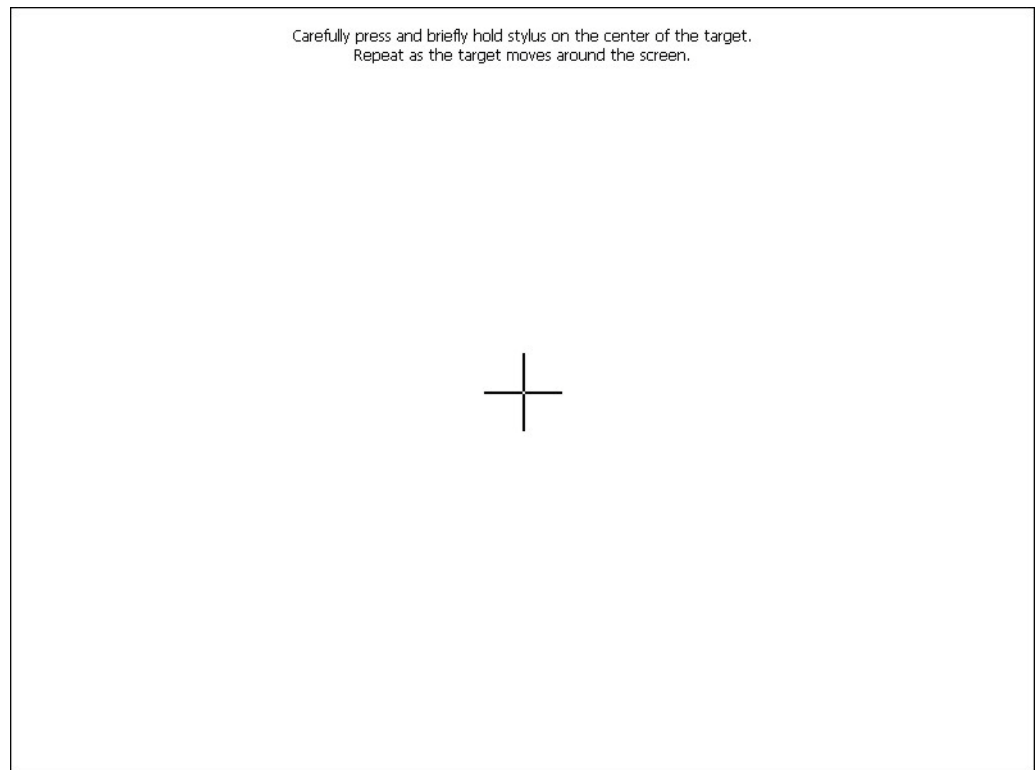

Figure 4-3. Calibrate Touch Screen
7. Follow the instructions on the screen in Figure 4-3. Touch and then release the screen in manner as it will be touched under normal use. The cross hair will move to four positions before prompting confirmation.